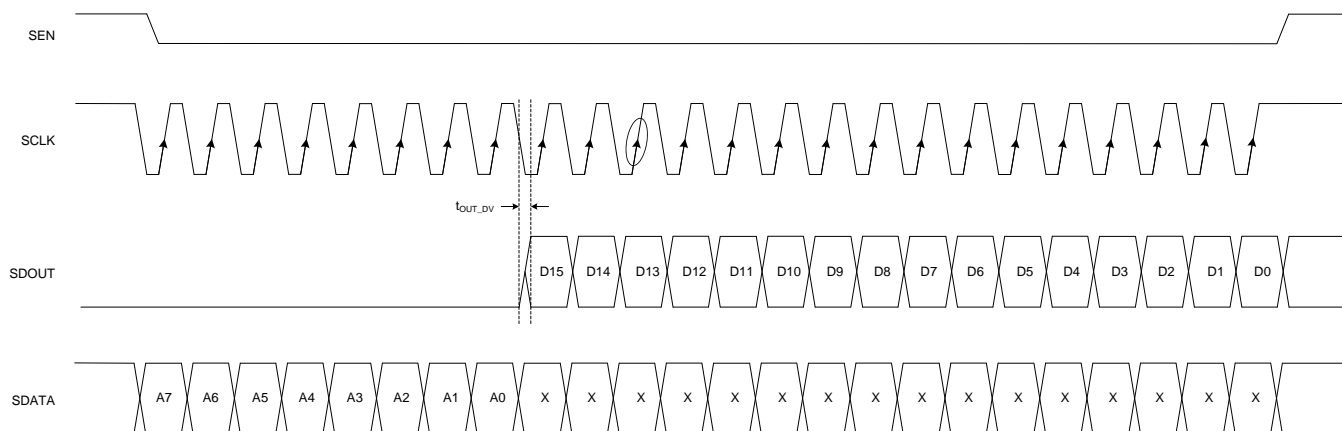

Figure 19. Serial Interface Register Read Timing Diagram
(1) Minimum values are across the full temperature range of $T_{\text{MIN}} = -40^\circ\text{C}$ to $T_{\text{MAX}} = +85^\circ\text{C}$ and $\text{AVDD} = 3.3\text{ V}$.
(2) See Figure 19.
The device includes an option where the contents of the internal registers can be read back. This readout may be useful as a diagnostic test to verify the serial interface communication between the external controller and the AFE. First, the REGISTER READOUT ENABLE bit (bit 1, register 00h) must be set to '1'. Then, initiate a serial interface cycle specifying the register address (A[7:0]) to be read. The data bits are *don't care*. The device outputs the contents (D[15:0]) of the selected register on the SDOUT pin. SDOUT has a typical 20-ns delay (t_{OUT_DV}) from the SCLK falling edge. For a lower speed SCLK, SDOUT can be latched on the SCLK rising edge. For a higher speed SCLK (for example, with an SCLK period less than 60 ns), latching SDOUT at the next SCLK falling edge is preferable. Figure 19 shows the read operation timing diagram (timing specifications follow the same information provided in Table 3). In readout mode, REGISTER READOUT ENABLE can still be accessed through SDATA, SCLK, and SEN. To enable serial register writes, set the REGISTER READOUT ENABLE bit back to '0'.